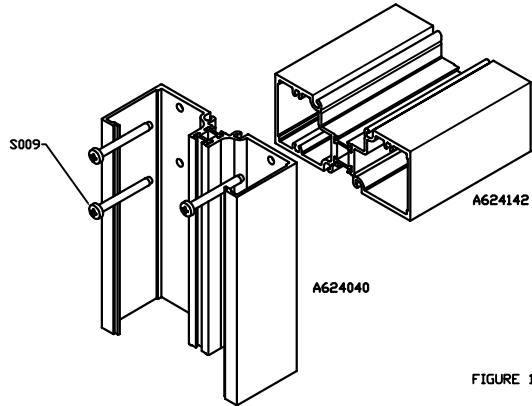

FIGURE 1
1. Attach header (and transom if required) with provided screws into the splines utilizing the templete provided. See figure 1 & 2.